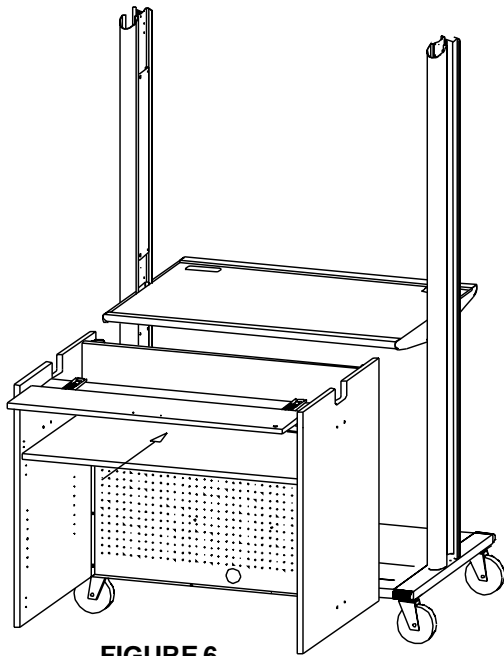

FIGURE 6
**CAREFULLY** slide cabinet assembly into the bottom of the cart as shown in **FIGURE 6**. **LOOSELY** attach cabinet to uprights with the 10-32 x 1" combo truss screws as shown in **FIGURE 7**. Also secure the bottom back panel to the bottom shelf using the 10-32 x 5/8" screws and the 10-32 serrated nuts as shown.